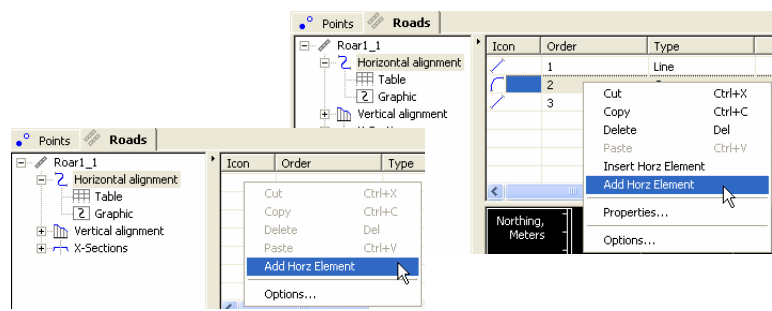

Figure 9-43. Adding Horizontal Element Through the Right Panel
- In the right panel, right-click in an empty line or the selected element and click **Add Horz Element** (Figure 9-43).